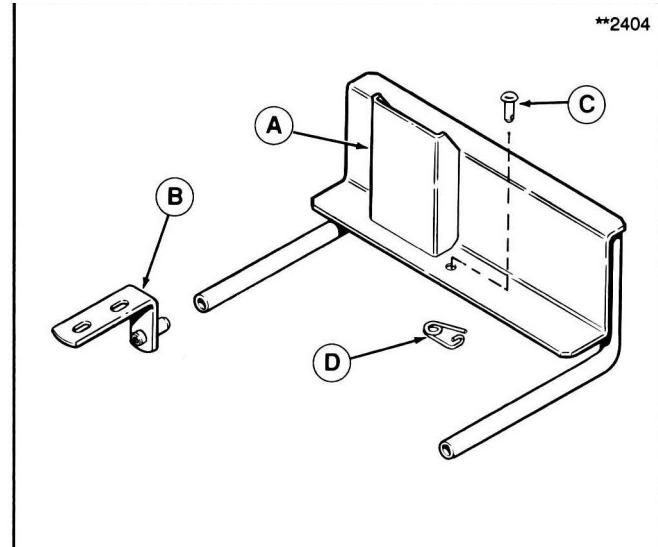

Figure 1.
1. Install the grass bag and bracket assembly (A, figure 1) on the anchor assemblies (B) located on each side of the transmission housing. Push forward so the bracket assembly rests fully on the anchors.
2. Insert the round pin (C) through the bracket assembly and frame, and secure it using the safety clip pin (D).